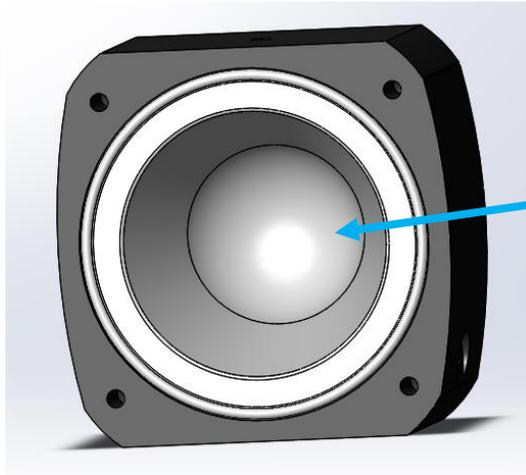

Figure 11 – Ventricle Membrane in the Pump Head
2. Remove the clear silicone ventricle shown in Figure 11. Replace if any tears or holes are visible.